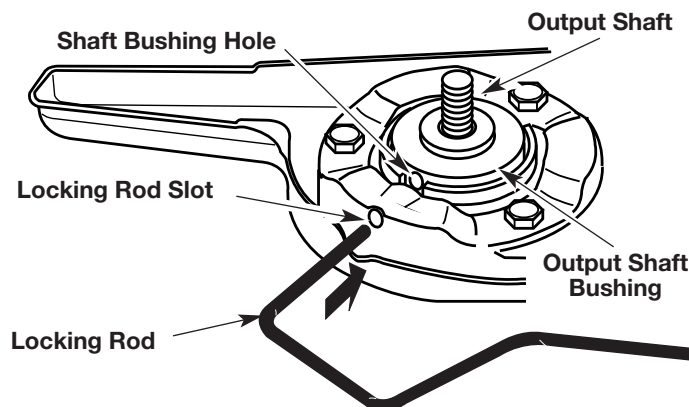
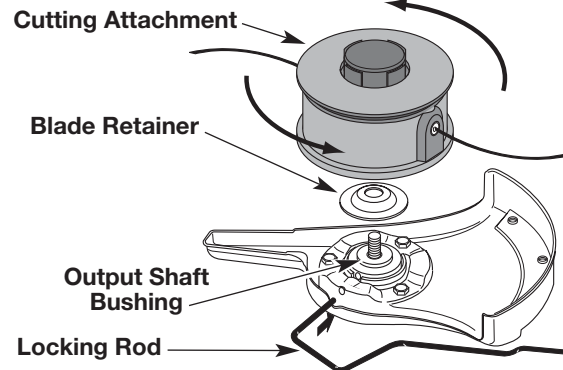

Fig. 7
Fig. 14
1. Align the shaft bushing hole with the locking rod slot and insert the locking rod into the shaft bushing hole (Fig. 7).
- Align the shaft bushing hole with the locking rod slot and insert the locking rod into the bushing hole (Fig. 7).
- Align the shaft bushing hole with the locking rod slot and insert the locking rod into the shaft bushing hole (Fig. 7). Place the blade retainer on the output shaft with the flat surface against the output shaft bushing (Fig. 14). Screw the cutting attachment counterclockwise onto the output shaft. Tighten securely.